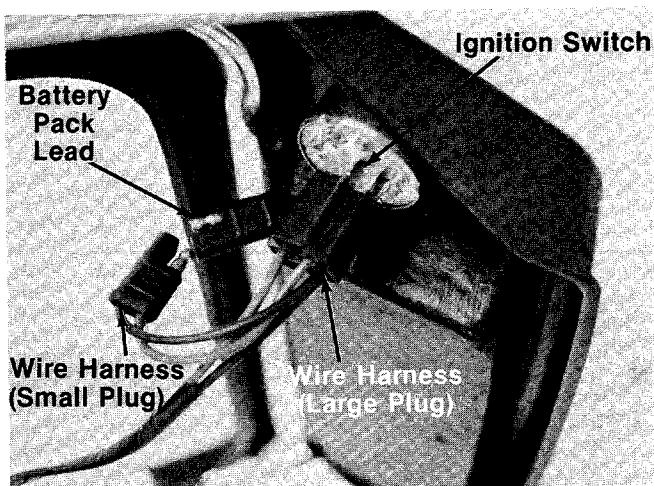

FIGURE 5.
6. **Model 296 only**—Plug the wire harness (large plug) into the ignition switch and plug the (small plug) wire harness into the battery pack lead. See figure 5.